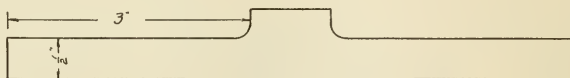

FIG. 197.—IRON DRAWN OUT.
2. **Drawing out.** — Draw out the two ends to $\frac{1}{2}$ " round; make them even the entire length, and smooth down with the top and bottom swage as in Fig. 197. A swage is a small tool with the face grooved. Most